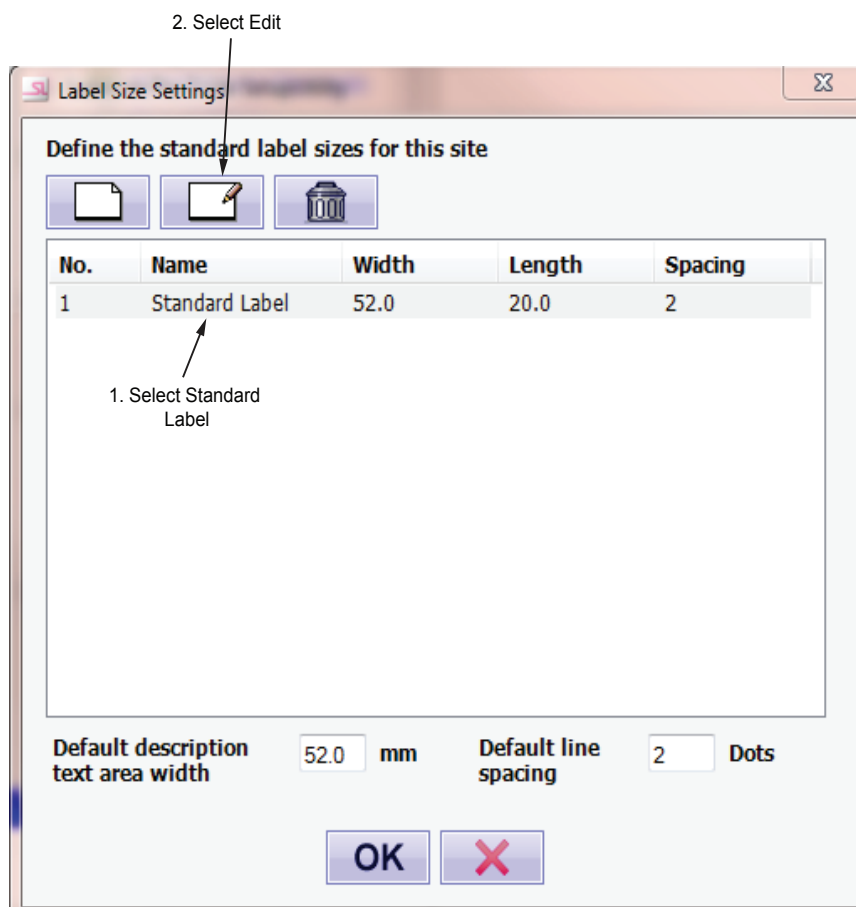

Figure 10-2
5. Select Edit. See Figure 10-2.